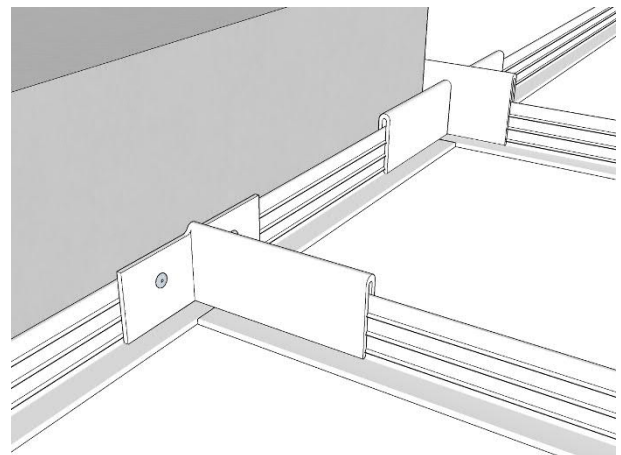

FIG. 18
2. When intersecting **Rails** are located at a ceiling item such as light fixtures, air duct diffusers, HEPA filters, a standard **T-Clamp** can be used for the **Junction**. They will need to be secured with **Lock Rivets** and **Backup Washers** to maintain integrity. These **T-Junctions** occur anywhere on a rail where there are ceiling items that interfere with the ability to use **Interlock Clamp** or an **Offset Clamp**. These can also happen at either a **Locating Notch** or **No Locating Notch**. FIG. 18